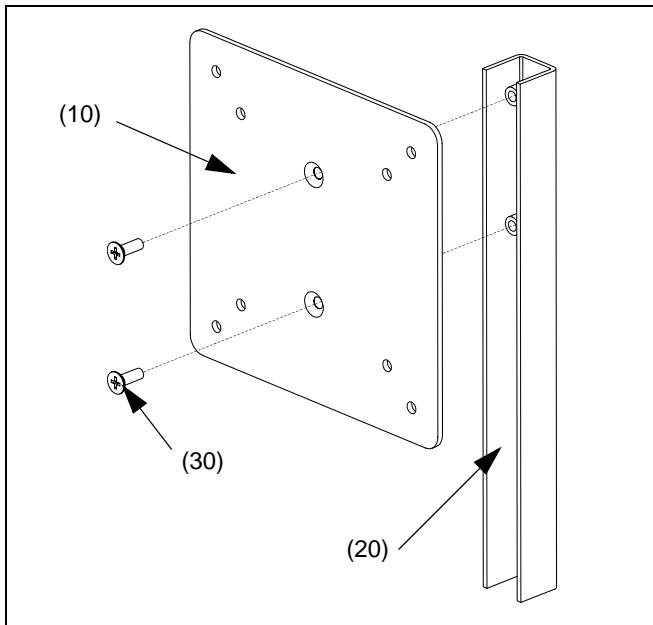

Figure 2: Assemble Interface Bracket
1. Assemble display interface bracket (10) to slide post bracket (20) using two PFMS (30) and 5/32" hex wrench (60) (provided). (see Figure 2)